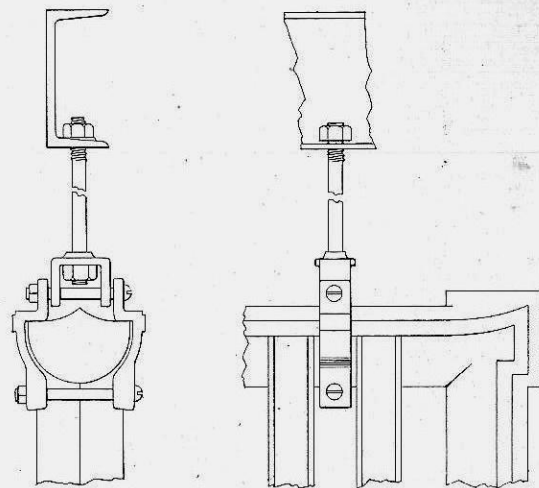
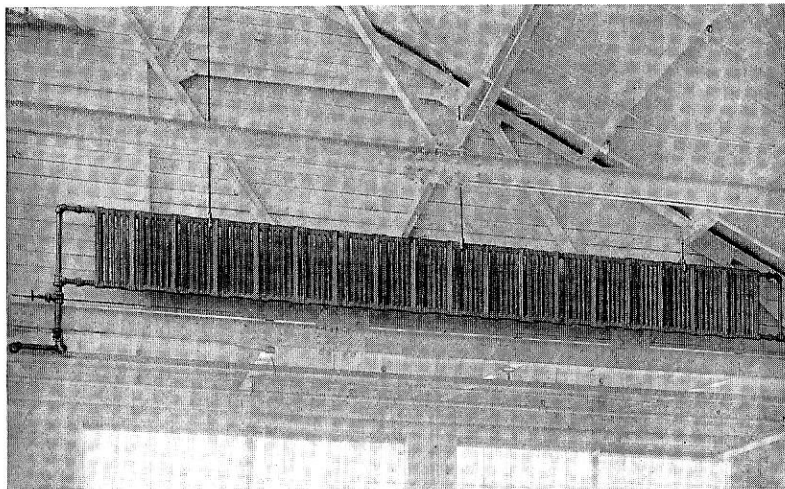

Fig. 184. End and side view of ARCO Pendant Flight, attached to AMERICAN Peerless Wall Radiator Section.
Fig. 191
**A**RCO Pendant Flights, as illustrated on this page and in the typical installation views in Figs. 191 and 192, afford an admirable means of suspending AMERICAN Peerless Wall Radiator sections in the roof bays, or in skirting the skylights, or like places, to meet and offset the cold and chill drafts and at the same time leave much of the valuable floor space free and unencumbered.
ARCO Pendant Flights fit snugly to the mid-contour of AMERICAN Peerless Wall Radiator sections, as shown by Fig. 184, at right of this page. The opening at top of the ARCO Pendant Flights accommodates a  $\frac{1}{2}$ -inch rod—the rod extending to and being made fast to the framework of the roof or to clamp to “I” beam, as illustrated in Figs. 191 and 192, page 45.